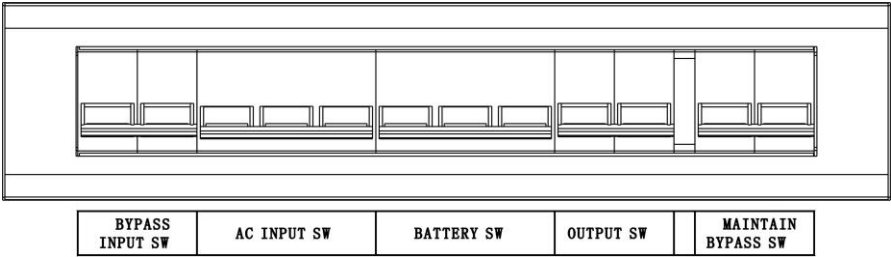

Figure 8 15-30K
5. Do not lay goods on the UPS. (Figure 8)